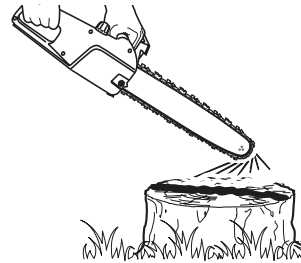

Fig. 18
1. Make sure the guide bar (11) and the saw chain (10) are in place when you check the oil delivery.
2. Start the engine; keep it running at medium power and check if the chain oil is delivered as shown in the figure (Fig. 18).